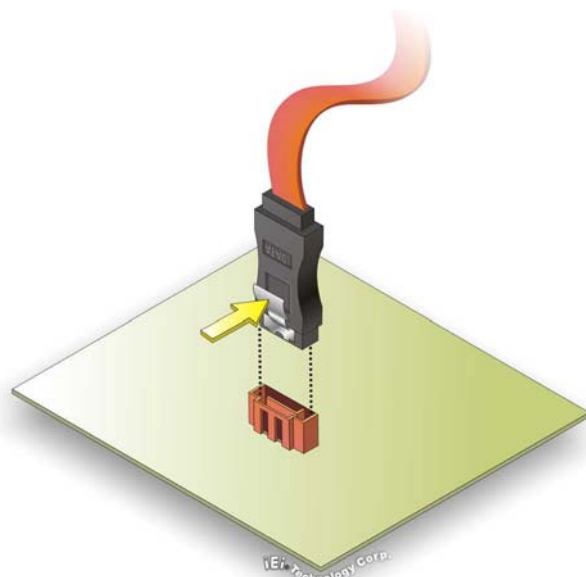

Figure 4-13: SATA Drive Cable Connection
Step 2: Insert the cable connector. Press the clip on the connector at the end of the SATA cable and insert the cable connector into the on-board SATA drive connector. See Figure 4-13.